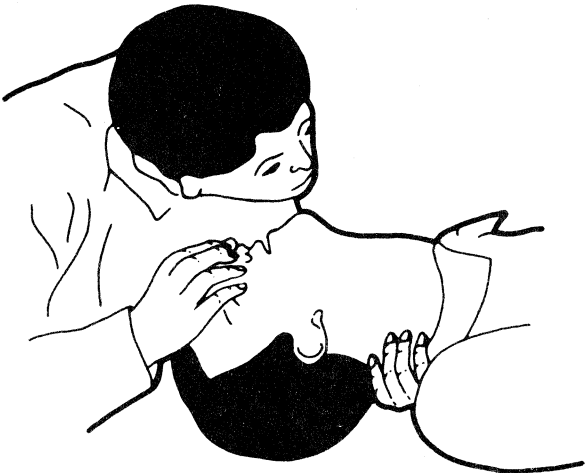

Figure 4.
- c. Remove your mouth and allow the victim to exhale while watching for the victim's chest to fall (See Figure 4).